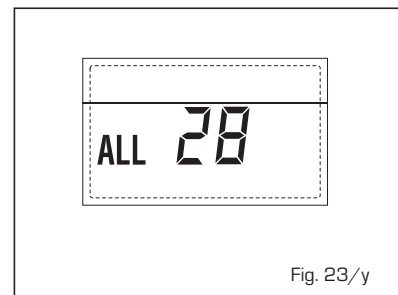

Fig. 23/y
- NUMBER OF CONNECTED BOARDS ANOMALY "ALL 29" (fig. 23/z)